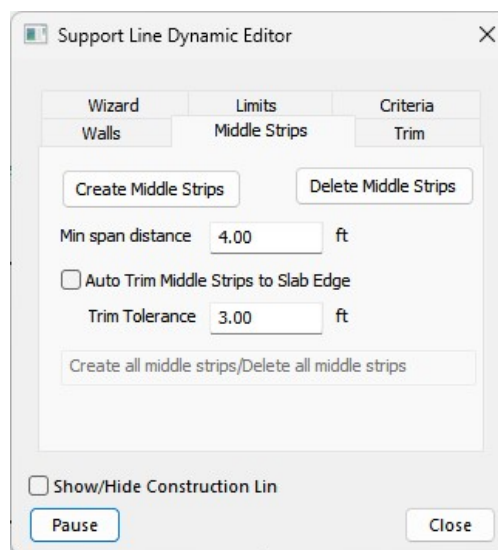

Figure 4.1-4 – Support Line Dynamic Editor
- Click on the **Middle Strips** tab of the *Dynamic Editor* as shown in **Figure 4.1-4**.